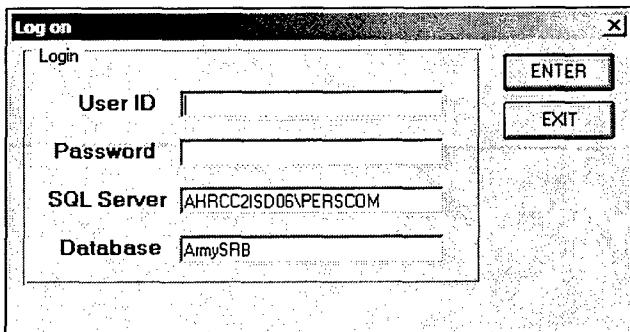

Figure 1. Login Screen
2. At the login screen shown in Figure 1, enter a valid User ID and Password. The SQL Server box should contain the string “AHRCC21SD06\PERSCOM” and the Database box should contain “ArmySRB.”